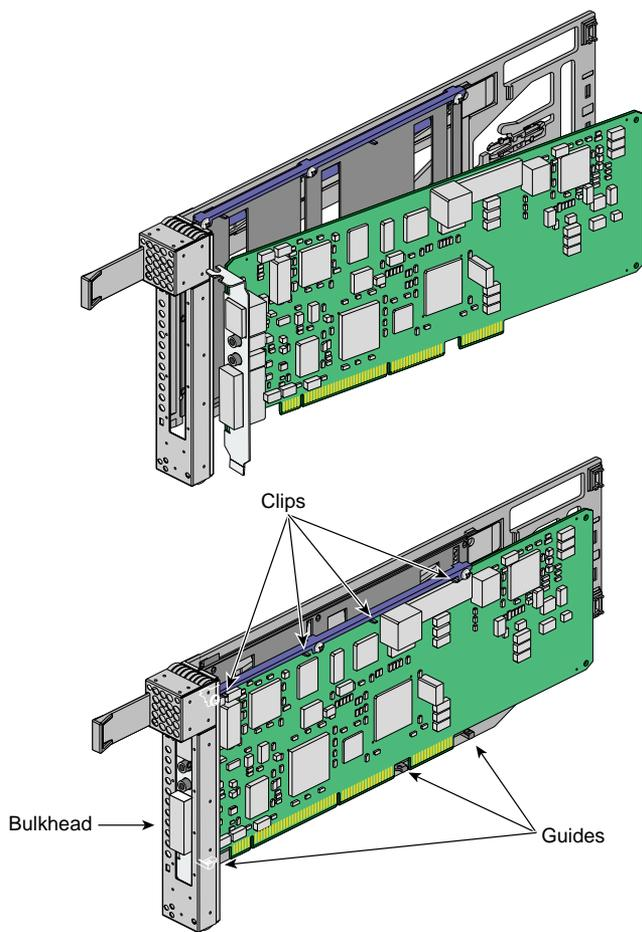

Figure 14-4 Mounting Full-height Card in Carrier
- c. Mount the card in the carrier, as shown in Figure 14-4, so that the following occurs: